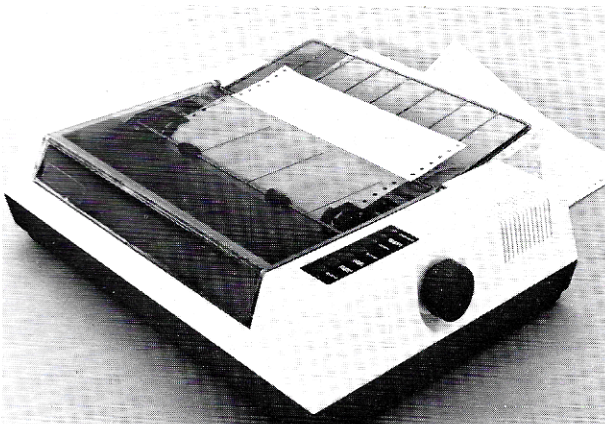

Figure 17
f) Return the head adjustment lever to its original position. Replace the paper shelf and printer cover in that order (figure 17). Adjust the print position by turning the paper feed knob.